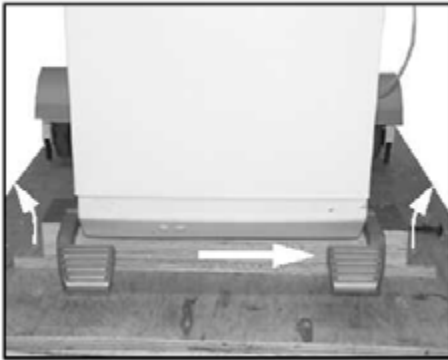

Fig. 4: Holding block
- Unscrew the holding block (Fig. 4 / p. 6).